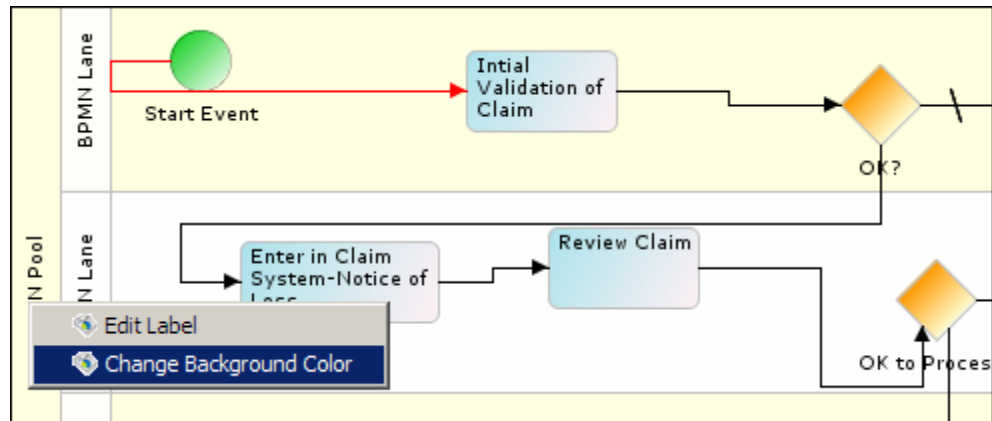

Figure 7.27: Change Background Color
1. Right-click the Pool and select **Change Background Color** option (see Figure 7.27).